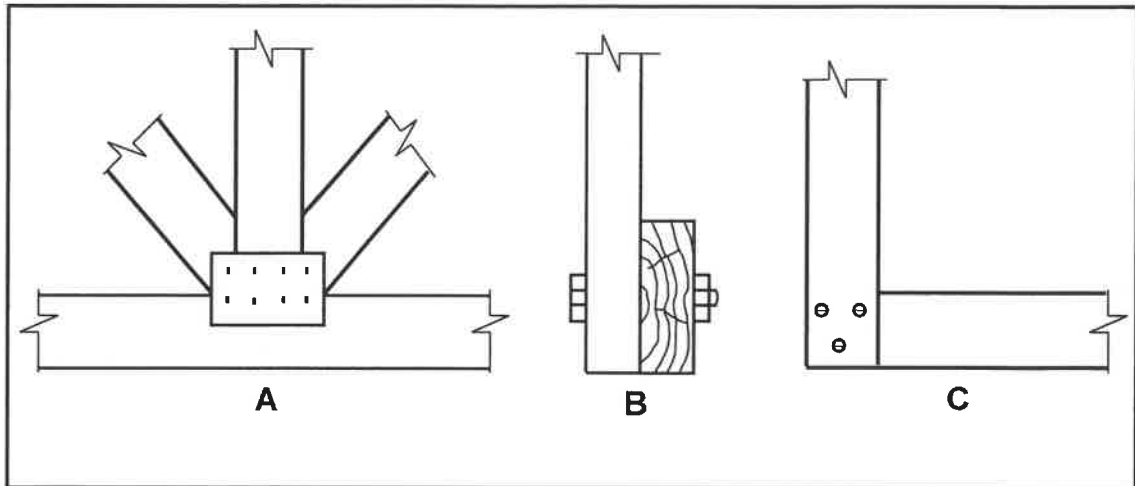

FIGURE 4.4
- 4.4 Identify, in EACH drawing in FIGURE 4.4 below, the joining fixtures that were used to join the members.